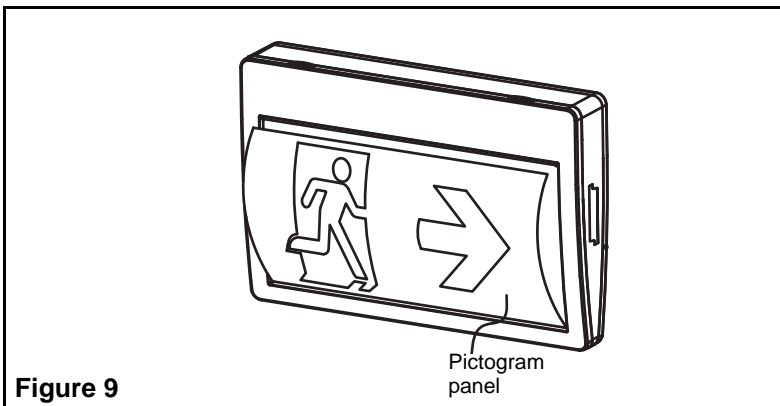

Figure 9
9. Install the appropriate pictogram panel into the faceplate by inserting the bottom of the panel into the bottom of the faceplate then insert the top of the panel into the top of the faceplate (see fig.9).